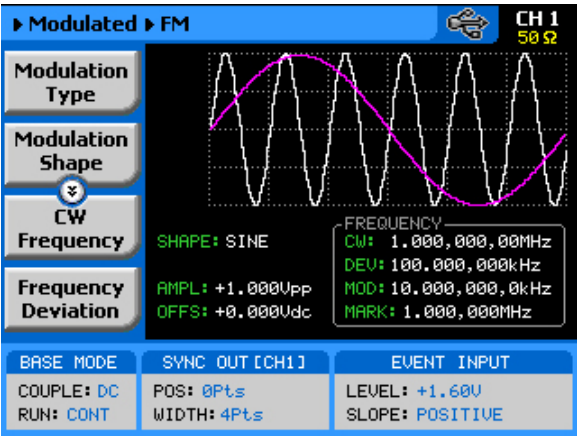

Figure 3-36, FM Menus
The FM function has a number of menus that control the modulation parameters. These are shown in Figure 3-36 and described in the following paragraphs:
**Modulation Shape** – Defines the shape and type of the modulating waveform: Sine Triangle, Square and Ramp. The Modulation Shape menu that provides access to the selection of the envelope waveform is shown in Figure 3-36.